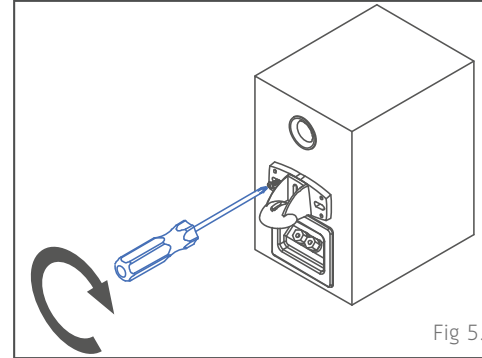

Fig 5.
- Place mounting plate and socket on speaker in the desired position (Fig 1-2 overleaf). Align with pilot holes, insert self tapping wood screws, and tighten until plate is secure. Avoid over-tightening. (Fig 5.)